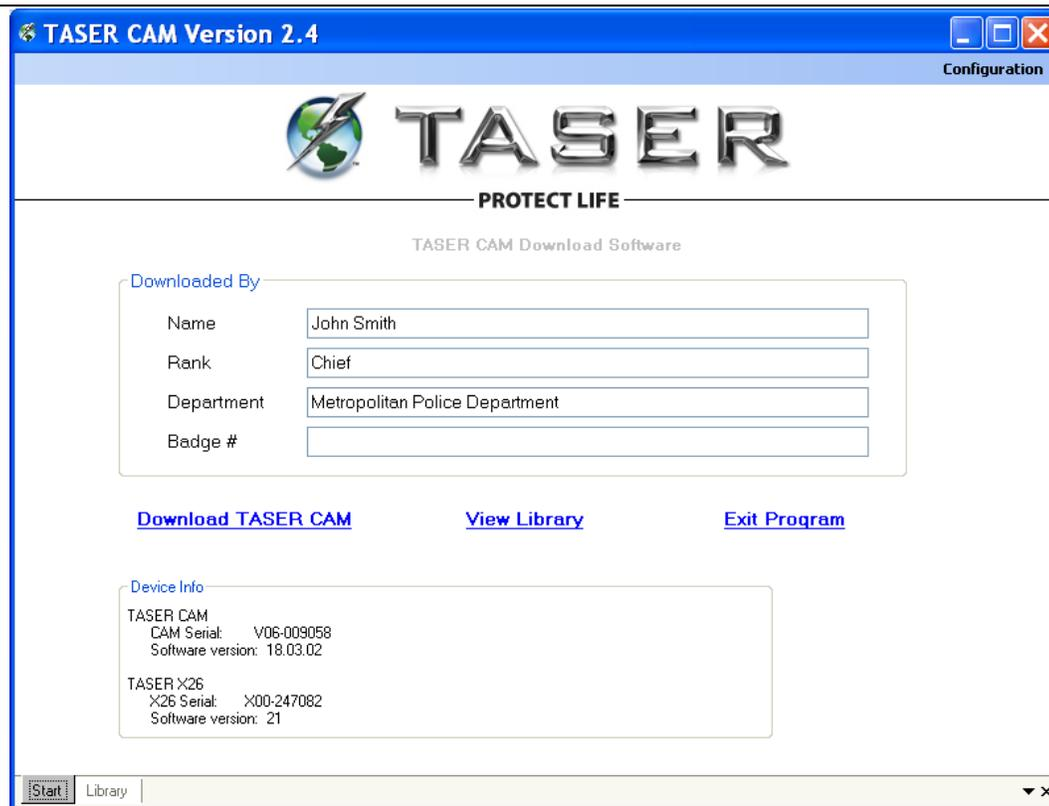

Figure 12
3. Fill in the operator information (Figure 11, Figure 12).
- The information typed in these fields (Figure 12) will remain as you download additional devices, but can be re-entered at any time.